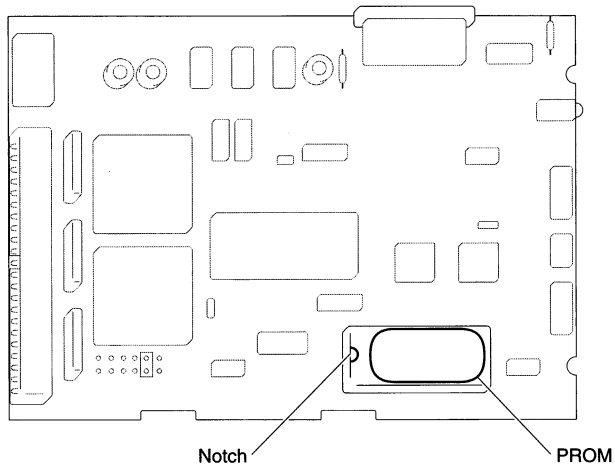

Figure 5 PROM Chip Location
2. FIGURE 5. Compare your drive controller board to the board layout shown in the figure, and locate the 28-pin ROM chip at U201.
4. FIGURE 5. Position the new PROM over the socket so that the notch on the PROM faces the 50-pin SCSI connector.